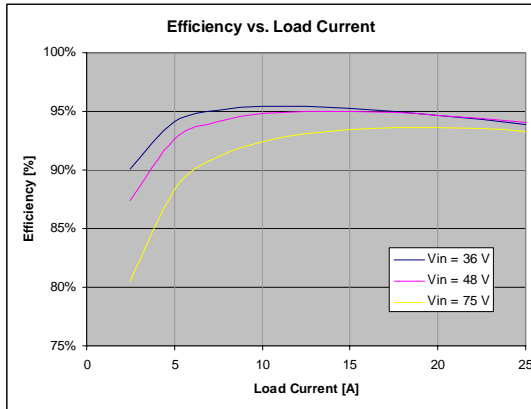

Figure 5: Efficiency curves at $T_A = 25\text{ }^\circ\text{C}$.
5. Refer to Figure 5 for the efficiency curves.